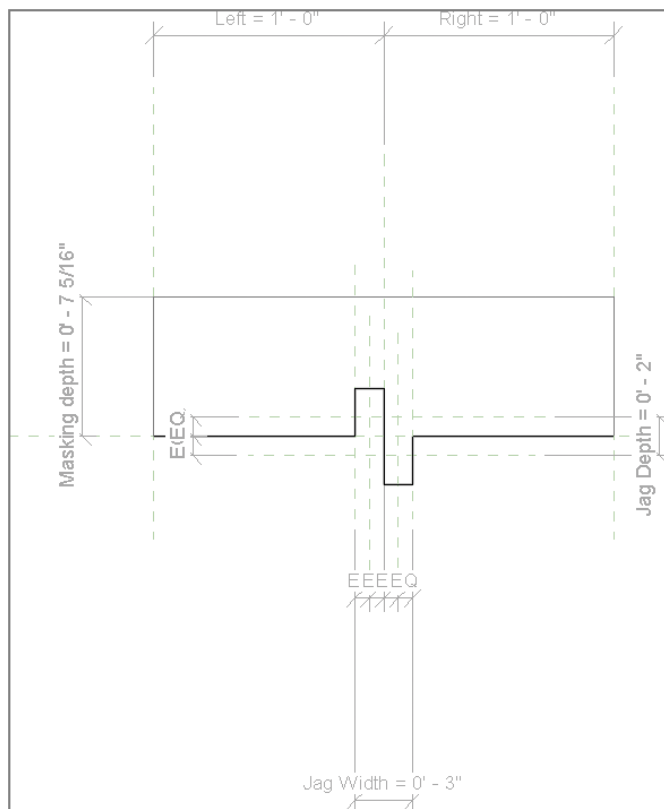

FIGURE 6.35 The masking region with all constraints displayed
4. In the View Control Bar, change the scale of the view to $1\ 1/2'' = 1'-0''$ (1:10) so the dimensions are more legible. Use Zoom To Fit to see the extents of the constraints (Figure 6.35).